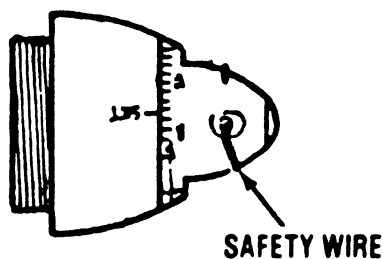

Fig 3-13. M768 fuze.
- (1) The M768 fuze (fig 3-13) is a powder-train time fuze used with the M853 illumination cartridge. It can be set from 3 to 55 seconds at one second intervals. The correct setting is obtained from range tables and applied using a wrench (number 9349539) or a 1 3/4 inch open-end wrench. This fuze has a safety wire that must be removed before firing.